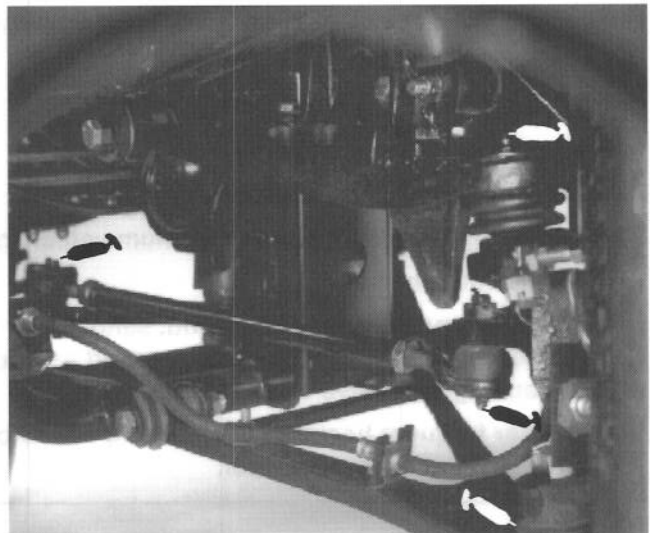

Figure 25
The grease fitting locations and quantities are: Tie rod ends (4) (Fig. 25), Front ball joints (4) (Fig. 25), Rear drive shafts (6) (Fig. 26) Front pivot bushings (2) (Fig. 27) and Steering shaft (1) (Fig. 28).